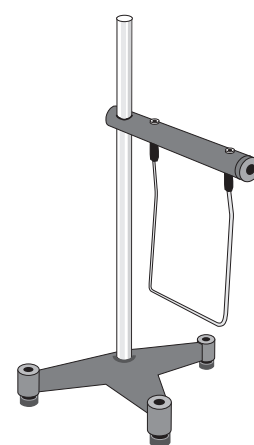

Figure 8
- ① Slide the support rod through the hole on the mounting rod and tighten the set screw to hold it in place.
- ② Plug the swing into the two holes in the mounting rod (Figure 8).
- ③ Place the Variable Gap Magnet (with the flat pole pieces installed) on its end so the magnetic field between the poles is vertical. Position the magnet so the horizontal wire of the swing is between the poles of the magnet. Adjust the poles of the magnet so the gap is just large enough for the swing to swing freely between the poles.